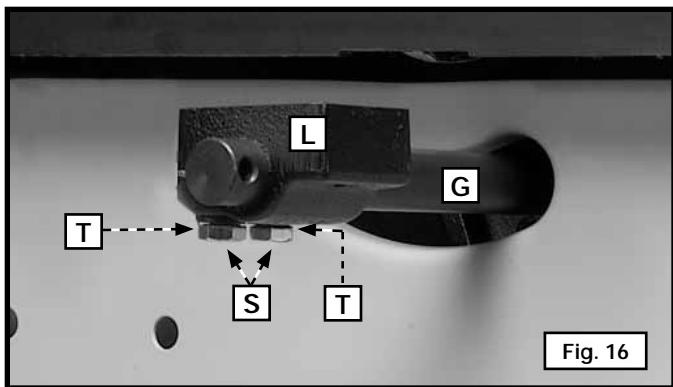

Fig. 16
8. Loosely attach the lower bracket (L) Fig. 16 to the rod (G) with two 5/16-18 x 1" hex-head screws (S) and 5/16" lockwashers (T) from underneath the bracket (L).